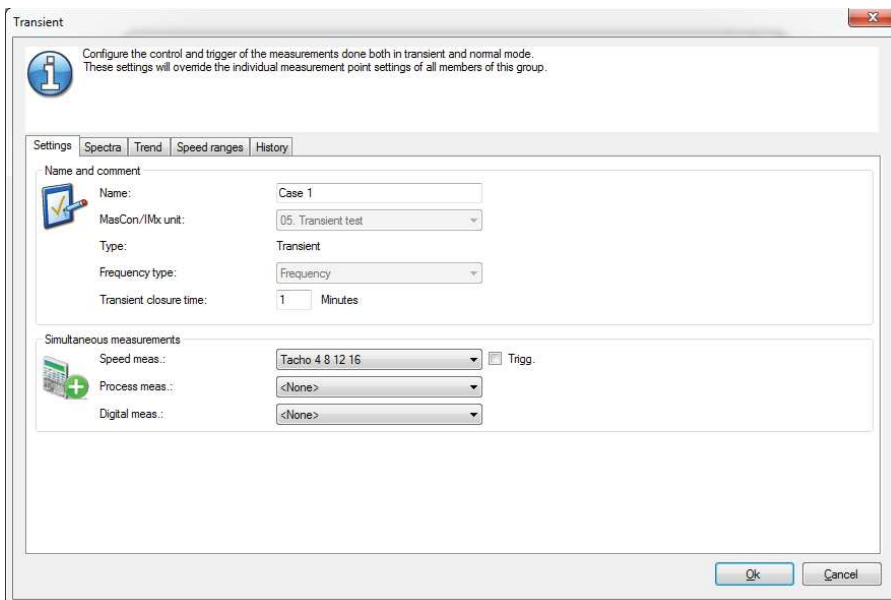

Fig. 5. Name the new transient group.
- 2 From the **Settings** tab, enter a name and choose the SKF Multilog IMx/MasCon and speed channel (→ fig. 5). **Transient closure time** is the time to remain in the transient after reaching the primary steady state. SKF @ptitude Observer uses this time to make a decision whether a transient is over or not, for example, to decide if two transient events should be glued or should be stored separately. The SKF Multilog IMx unit will start measuring this time after the **Transient state time out** is over (see the description in point #5). Finally, set the simultaneous measurements.